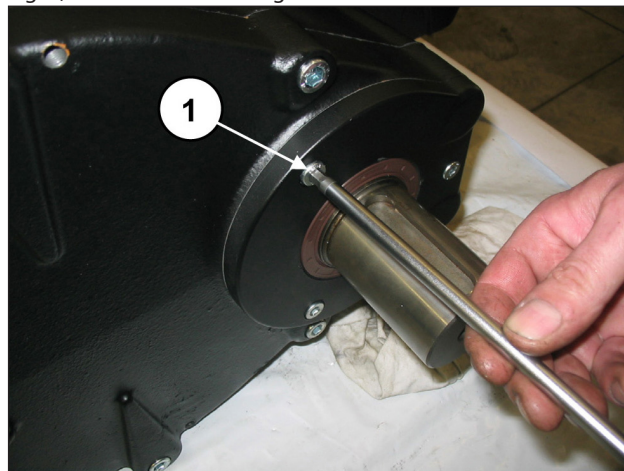

Fig. 3
Unscrew the reduction gear flange fixing screws (pos. ①, Fig. 3) and remove the flange from the shaft.